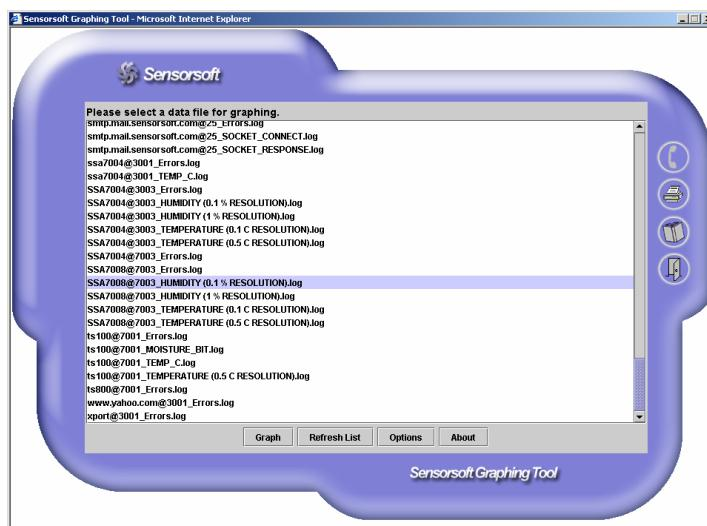

Figure 1
- From the list of data files (see Figure 1), select the one that you would like to graph by clicking on its name. Then click the Graph button. Make sure the file that you have selected contains valid data (See *Appendix B – Sensorsoft Data Log Format*).
When SGT is launched, it displays a list of data files for the user to graph (see Figure 1). This list is obtained by reading an HTML file that contains links to data files and extracting the file names and URLs. This HTML file can be specified in the Options dialog. If your SGT is integrated into RWME, then the HTML file is set to RWME1000041.html, and you should never change it. Similarly, SGT is integrated into the Sensorsoft Alert (SSA) unit and the HTML file is set to read /logs.asp. This URL should never be changed. If you are running SGT from a different web server, then it will be necessary to specify the HTML file. For example, there may be several HTML files that contain links to different data files that you wish to graph, and the only way SGT can find these HTML files is for you to specify them. Keep in mind that the HTML file you